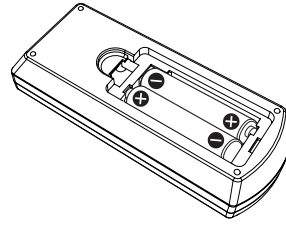

Fig. 2
- 2) **Insert batteries and close the cover (insert the "⊖" side first). (Fig. 2)**